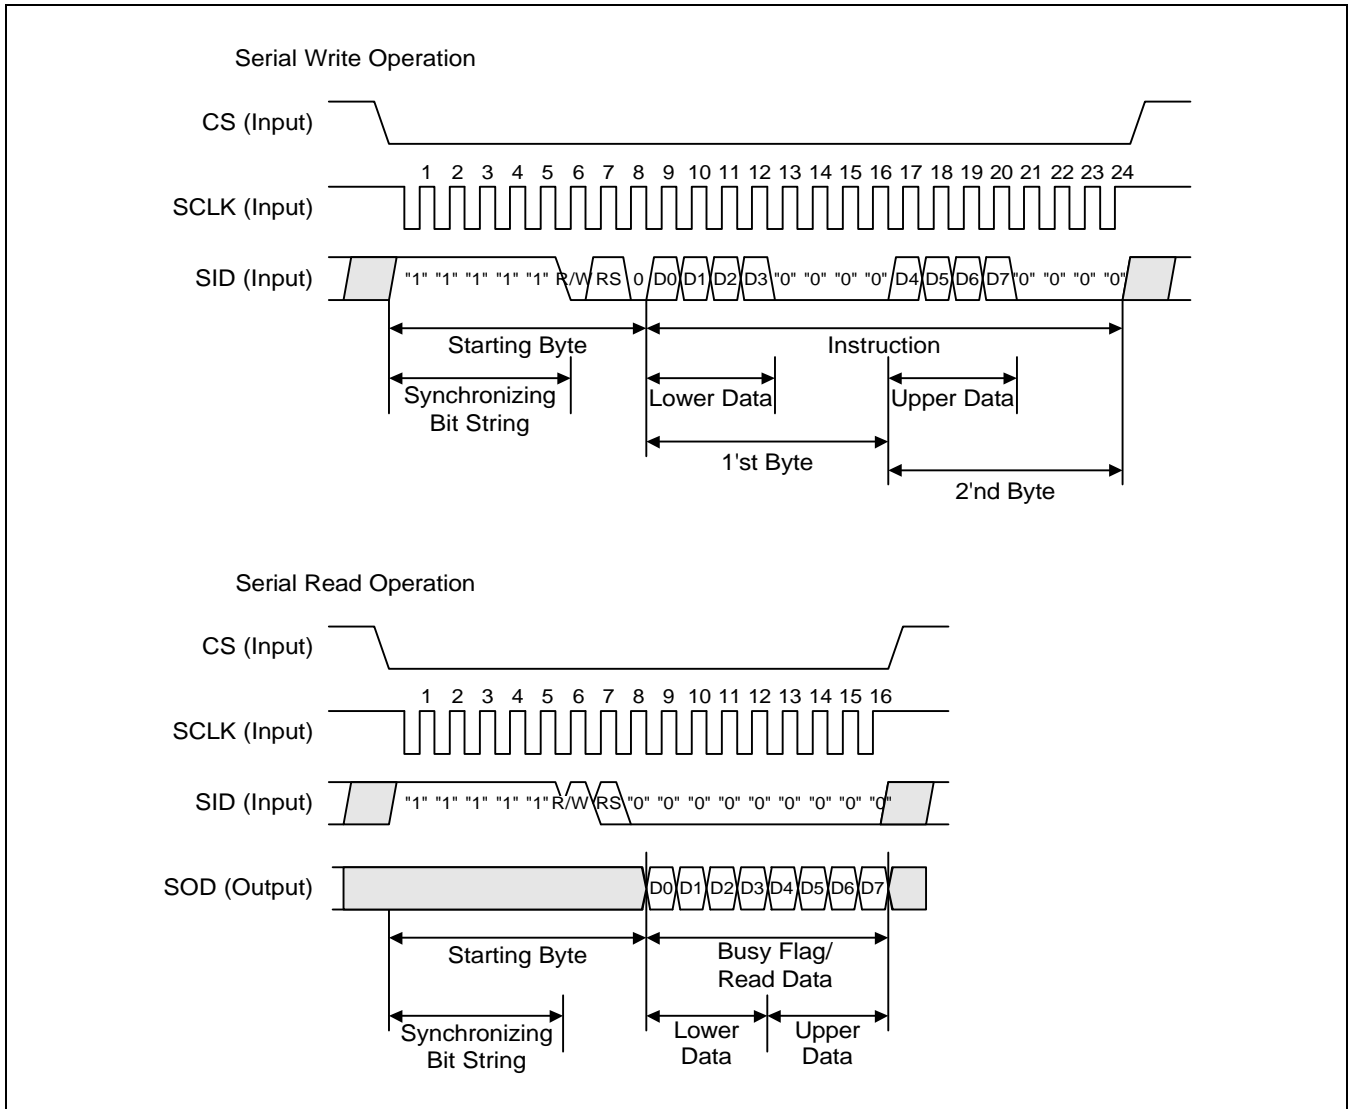

Figure 13. Timing Diagram of Serial Data Transfer
When IM port input is "Low", serial interface mode is started. At this time, all three ports, SCLK (synchronizing transfer clock), SID (serial input data), and SOD (serial output data), are used. If you want to use S6A0074 with other chips, chip select port (CS) can be used. By setting CS to "Low", S6A0074 can receive SCLK input. If CS is set to "High", S6A0074 reset the internal transfer counter. Before transfer real data, start byte has to be transferred. It is composed of succeeding 5 "High" bits, read write control bit (R/W), register selection bit (RS), and end bit that indicates the end of start byte. Whenever succeeding 5 "High" bits are detected by S6A0074, it makes serial transfer counter reset and ready to receive next information. The next input data are register selection bit that determine which register will be used, and read write control bit that determine the direction of data. Then end bit is transferred, which must have "Low" value to show the end of start byte (Refer to Fig 13. Fig 14).